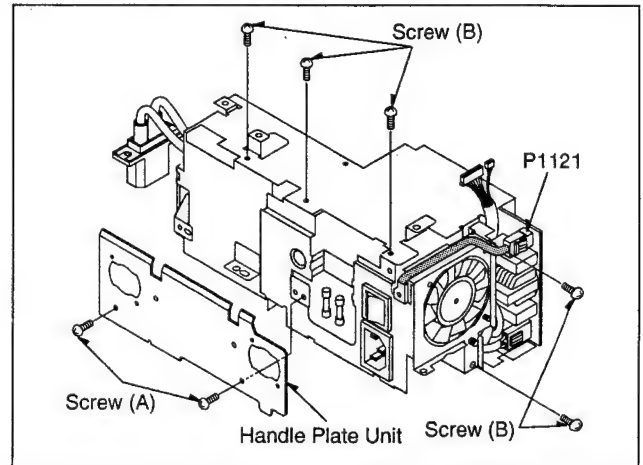

Fig. P3
1. Remove 2 screws (A) and remove the Handle Plate Unit as shown in Fig. P3.
2. Remove 5 screws (B) and disconnect connector P1121.